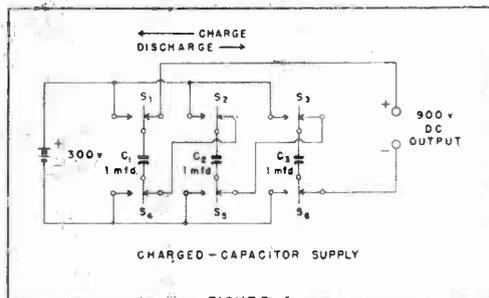
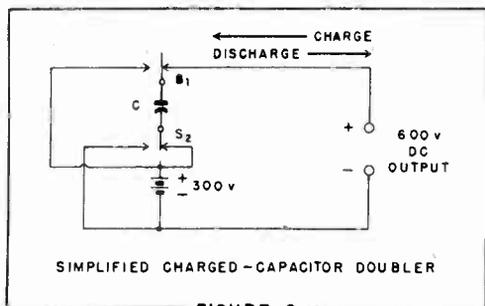
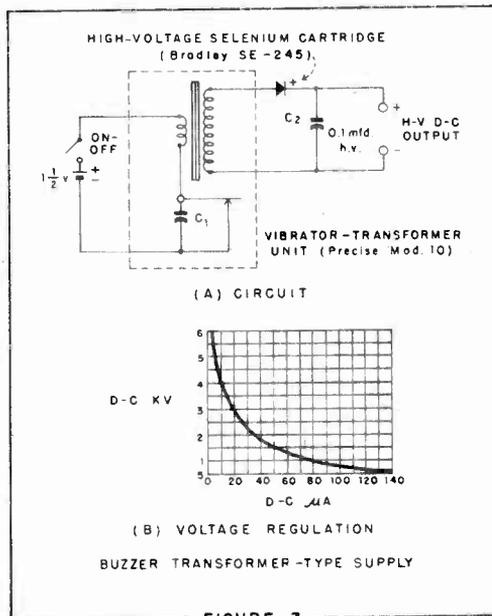

FIGURE 1
FIGURE 2
FIGURE 3
As an absolute minimum, you need an antenna of some kind to pick up signals, a crystal detector to change them into audio-frequency current, and an earphone to convert the audio into actual sound. Figure 1 shows the diagram of such a set. Selectivity is not very good, because there are no tuning circuits, but it does bring in local stations with any sort of an outside wire aerial. A ground connection is optional; sometimes it helps, sometimes it doesn't.
Better results can be realized from the circuit of Figure 2. The "tuning coil" shown at the left side of the diagram is one section of an old 2.5 millihenry radio-frequency choke coil. The detector is again a 1N48 diode. The coil, the diode and the .01 mfd. paper capacitor all fit fairly comfortably *inside* the earphone case, as the photo shows. The coiled flexible wire with the clip on it is the aerial lead, and is connected to any handy metal object. Loud, clear signals are obtained from such unlikely bodies as bed springs, fire hydrants, wire fences, automobiles, garden furniture, etc. A real antenna consisting of perhaps 25 or 35 feet of wire of any kind, hung from a window or thrown into a tree, usually brings in stations from miles around. A ground connection is again optional.
In more remote country areas, a fairly large antenna may be needed to extract energy from passing radio waves. Normally, an aerial is supposed to be well insulated at both ends, especially if it hangs from a metal tower or mast. However, an unusual twist is shown in Figure 3. The wire is insulated at the receiver end, but is well connected to the far tower. With a return path formed by the ground, the antenna acts as a huge loop, and under some circumstances gives better results than a conventional all-insulated aerial.
Earphone connects across 1N48 diode in simplest circuit, Fig. 1. Results are improved by the addition of coil, and capacitor across earphone, Fig. 2. A long wire aerial with grounded end boosts effectiveness a good deal in remote areas, Fig. 3.
An entire receiver in an earphone! Coil, diode, capacitor of Fig. 2 fit in case. Wire with clip on end is for antenna connection.
Figure 1 shows a charged-capacitor type of supply operated from a miniature 300-volt battery (such as Burgess U200, Eveready 493, or RCA VS093) and delivering 900 volts DC. When the 6-pole, 2-position switch ($S_1, S_2, S_3, S_4, S_5, S_6$) is temporarily at its left-hand CHARGE position, capacitors $C_1, C_2,$ and C_3 are connected in parallel with the battery and become charged. When the switch then is thrown to its right-hand DISCHARGE position, the capacitors are connected in series, and 900 volts is available at the output terminals of the circuit. The total capacitance in the discharge condition is 0.333 ufd. It is convenient to have the switch rest normally in the DISCHARGE position to provide a normal connection of the series combination to the output terminals. If the switch has a spring return, the capacitors are charged each time the switch is depressed or thrown, after which the switch returns automatically to the DISCHARGE position to deliver high-voltage output.
Figure 2 shows a simplified charged-capacitor circuit which delivers twice the battery voltage. In this arrangement, when the dpdt switch (S_1, S_2) temporarily is at its left-hand CHARGE position, capacitor C is charged from the 300-volt battery. When the switch is returned to its normal, right-hand DISCHARGE position, the charged capacitor is connected in series with the battery. The voltage at the output terminals then is the sum of the battery and capacitor voltages, or 600 volts.
Figure 3(A) shows the circuit of a vibrator (buzzer) type high-voltage supply of this kind. The vibrator transformer here is a Precise Model 10. This is a small unit (having about the same dimensions as a 6L6 metal tube) which plugs into an octal socket. The step-up transformer, vibrator, and spark suppression capacitor (C_1) are self-contained. A single 1½-volt, Size-D flashlight cell supplies the DC driving voltage. Current drain is approximately 35 milliamperes.
The open-circuit output potential is 6000 volts DC. Figure 3(B) shows the voltage regulation of the circuit. From this plot, it may be seen that the output voltage falls to approximately 500 volts at a current drain of 140 microamperes (load resistance of $3\frac{1}{2}$ megohms). A potential of 1000 volts is obtained at 70 μ a drain. The output voltage may be regulated through the use of a filamentless, miniature regulator tube such as Type CK5517 for 2.3 kilovolts, 5841 for 900 volts, or CK1036 for 700 volts.